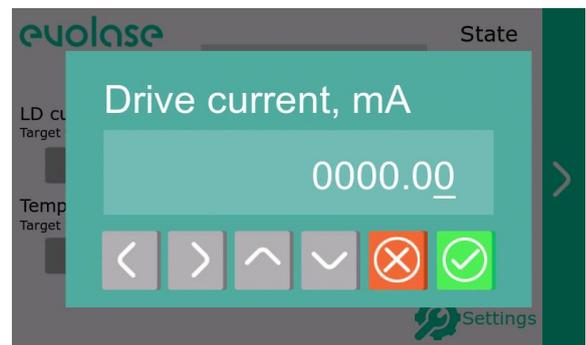

Figure 6 – Driver current setting
10. Tap on LD current value to set the laser diode current (fig. 6). Use the left and right arrows to select the digit to change, use the up and down arrows to change the value. Press button to save the changes and exit menu. Press button to exit menu without changes.